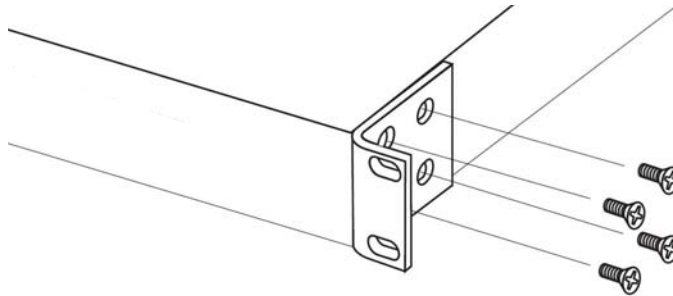

FIG. 2 Attaching the Brackets
1. Attach the brackets to the PDU using the screws provided in the Bracket Mounting Kit (FIG. 2).